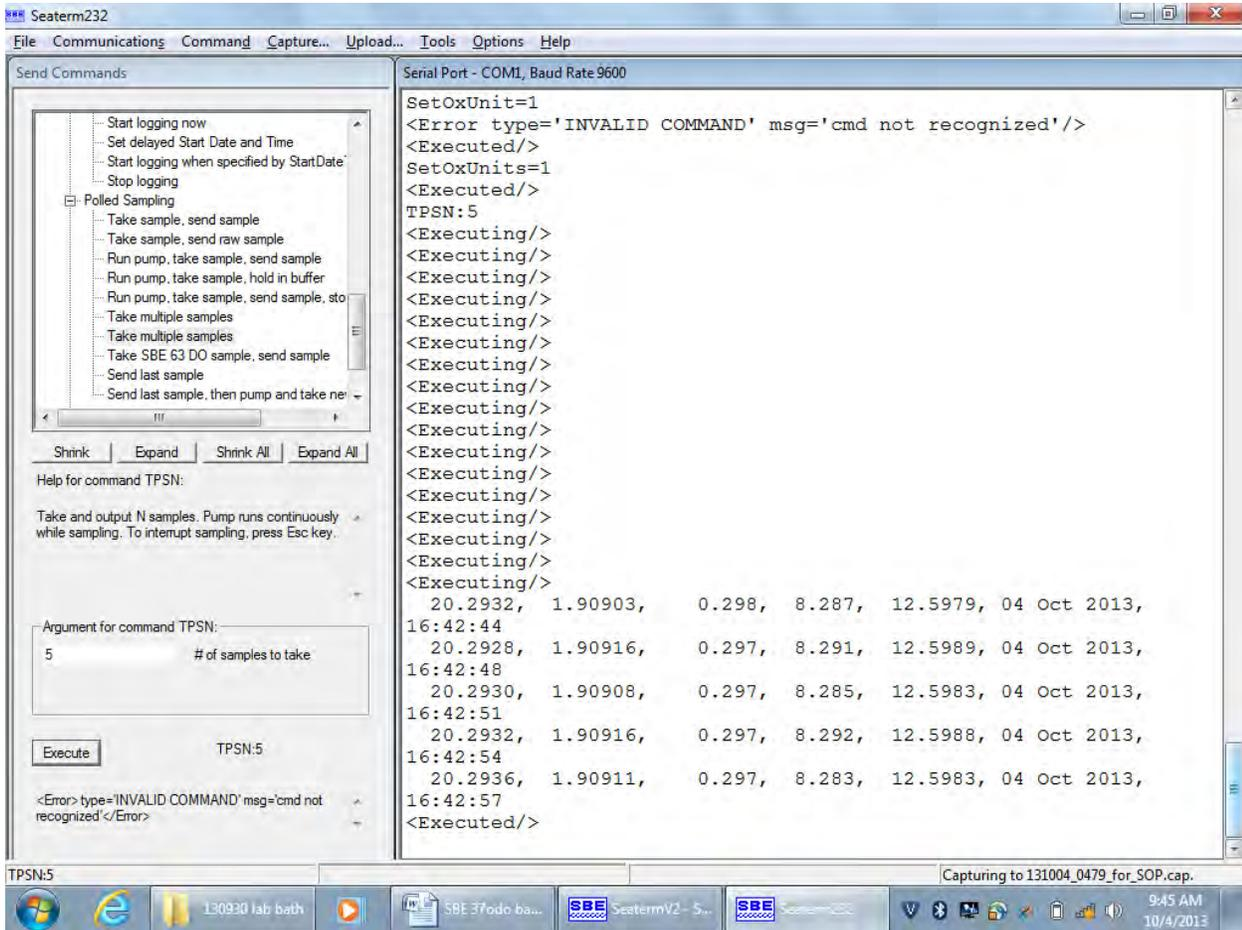

Figure 28. In bottom of data echo area, five polled samples are displayed as a result of the TPSN:5 command.
- d. Five samples will be displayed as shown in next image with data being displayed in the following column order (Figure 28):